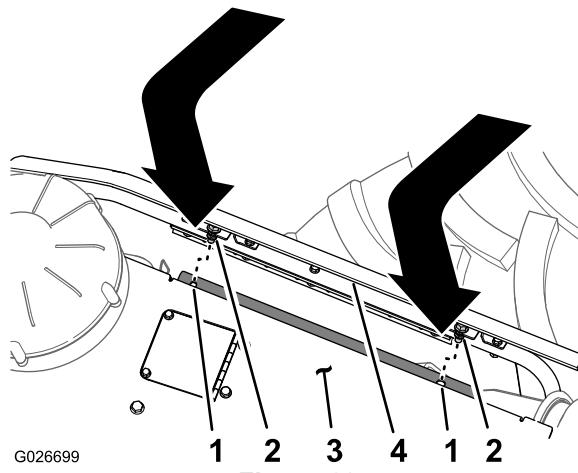

**Figure 61**
- 4. Lift the panel up and then away from the machine (Figure 61).